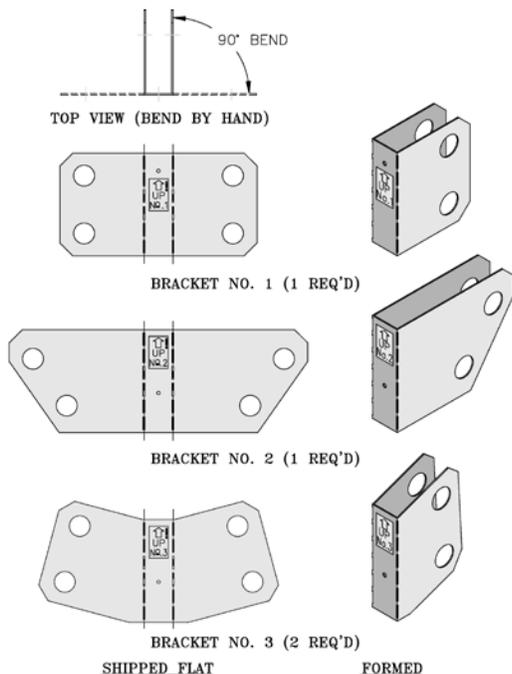

Figure 10: Jacket Intermediate Panel Mounting Brackets
4. (■) Denotes location of 'C' Center Section to which jacket support brackets must be attached during block assembly, see Figure 10 for bracket details.
- i. LOCATE JACKET INTERMEDIATE PANEL MOUNTING BRACKETS NO. 1, NO. 2 AND NO. 3 IN JACKET CARTON. Brackets are shipped flat and must be formed by hand, bend as shown in Figure 10.
- i. LOCATE JACKET INTERMEDIATE PANEL MOUNTING BRACKETS NO. 1, NO. 2, AND NO. 3 IN JACKET CARTON. Brackets are shipped flat and must be formed by hand, bend as shown in Figure 10.
Brackets are shipped flat and must be formed by hand, bend as shown in Figure 10.